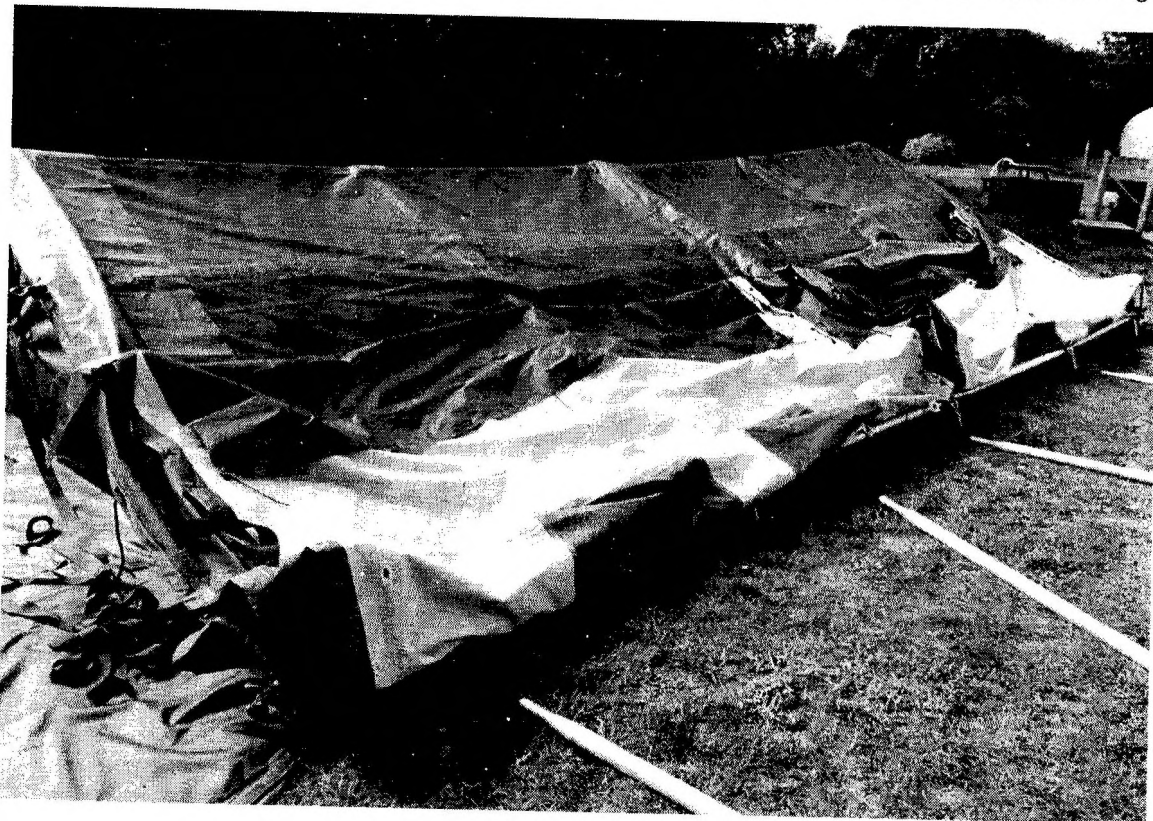
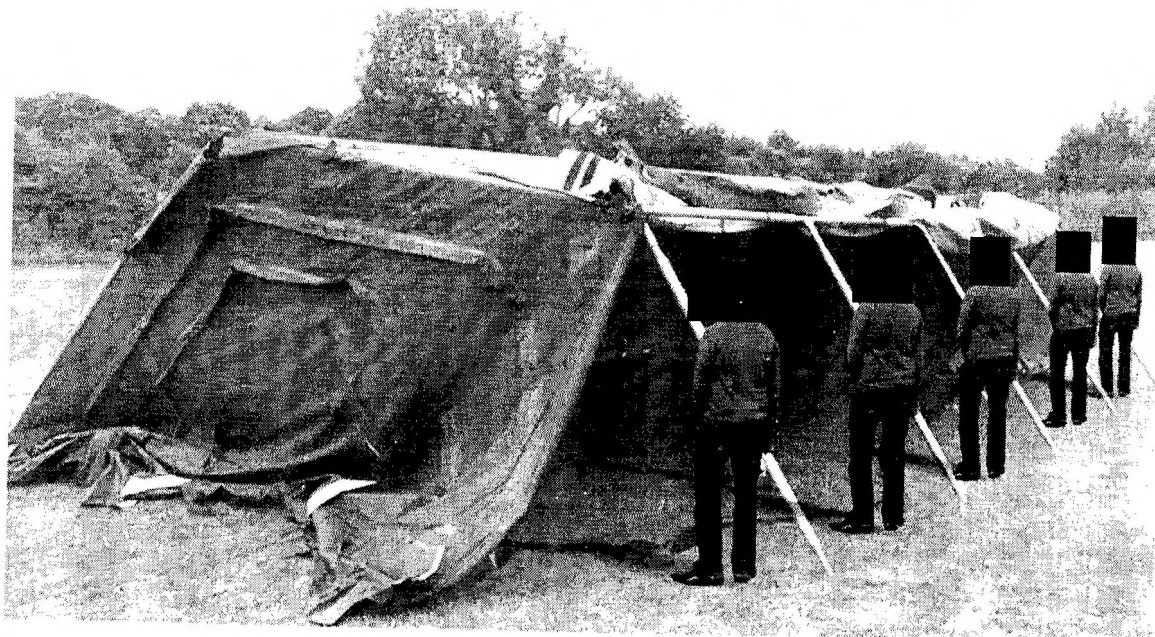

Figure 39: Fold over covers to get access for lifting the frame
Figure 40: Shelter legs fitted on one side
43. The canvas should be folded over to gain access to the frame to lift Fig 39. The sides should be lifted one at a time and the legs inserted. The operation should utilise one person for each leg as shown in Fig 40.